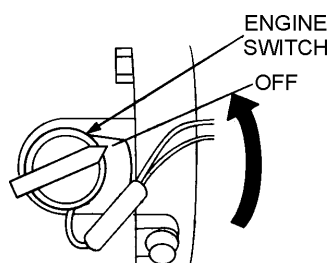

Figure 19. Engine ON/OFF Switch (OFF)
3. Turn the engine ON/OFF switch to the "OFF" position (Figure 19).